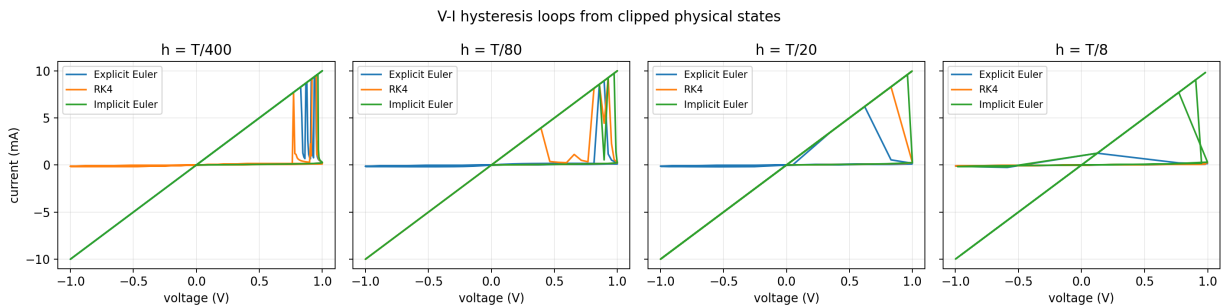

Figure 3: Voltage-current hysteresis loops computed from clipped physical states.
Figure 3 plots current against voltage. Voltage is on the horizontal axis. Current is on the vertical axis. Because the voltage is sinusoidal, the system repeatedly moves forward and backward through voltage values.
6.11 Presentation explanation for Figure 3